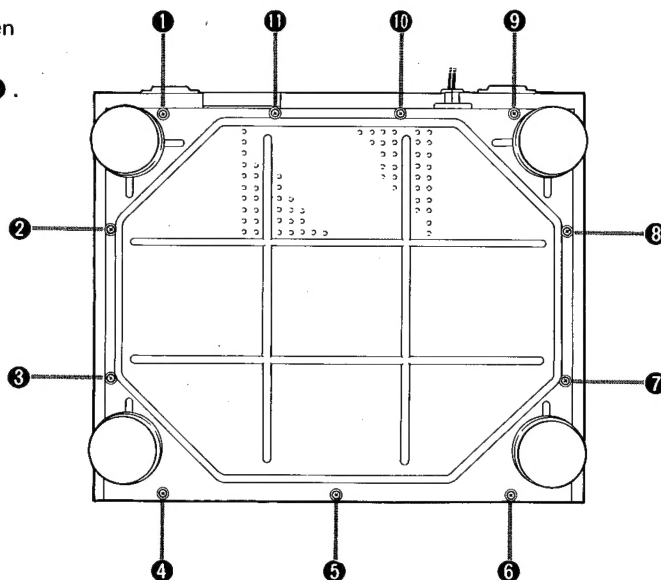

Fig. 1
① CABINET BOTTOM REMOVAL
1. Remove screws ① to ⑪ in Fig. 1 and then remove the cabinet bottom.
*Toothed washer is attached to the screw ⑤.